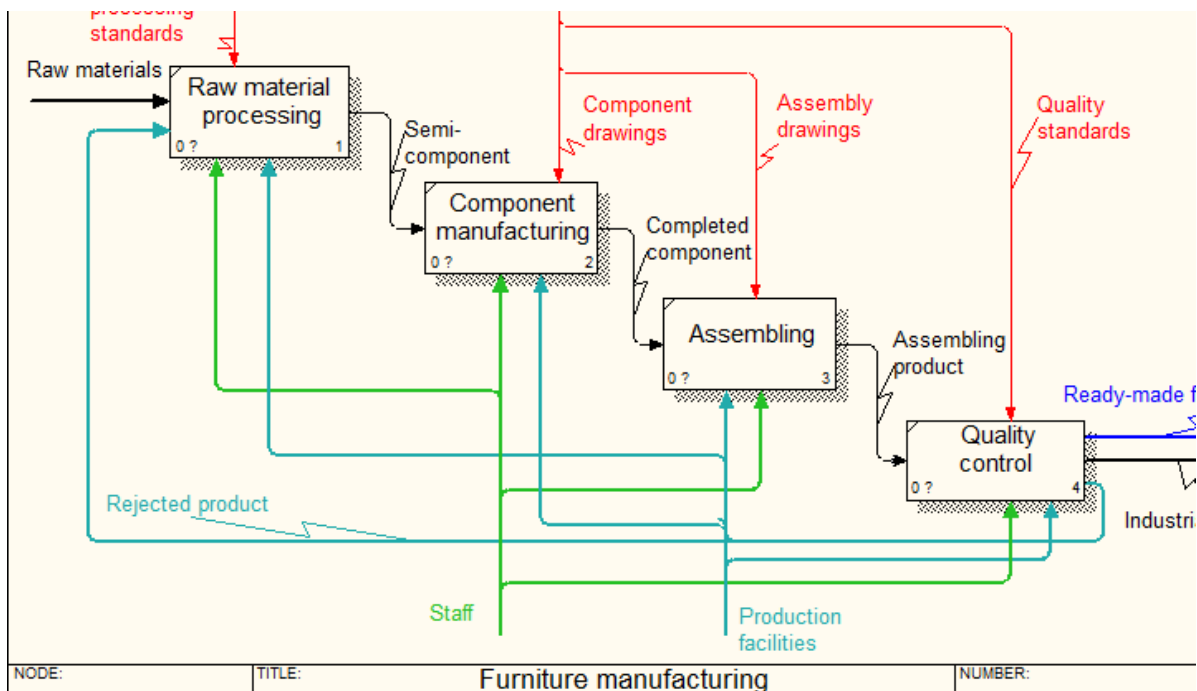

Fig. 2.7. *Construction of the Staff and Production Facilities* arrows
2. Check your work (fig. 2.7).